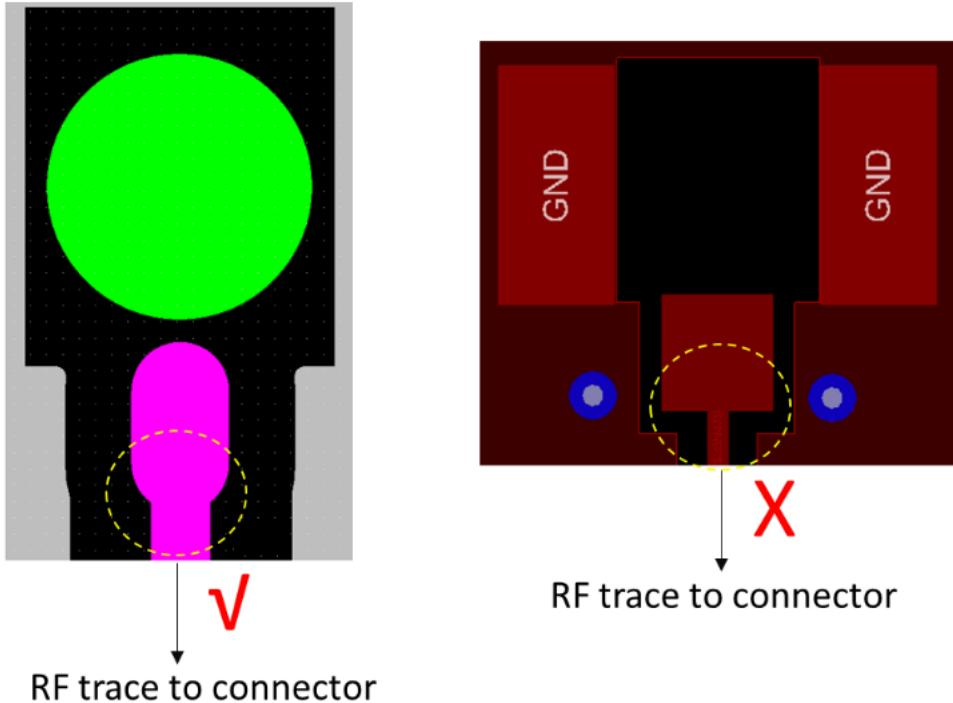

Figure 25. Taper line for RF trace to connector
- RF trace to RF connector pad transition must be tapered to avoid discontinuity and high insertion loss, especially at 5 GHz band. An example is shown in Figure 25.